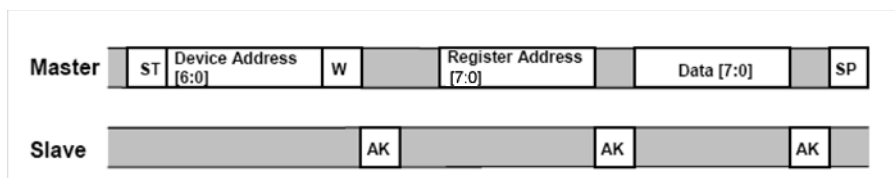

Figure 8. Single Byte Write - The Master (MCU) is writing to a single register of the MMA7455L
To start a write command, the Master transmits a start condition (ST) to the MMA7455L, slave address (\$1D) with the R/W bit set to “0” for a write, the MMA7455L sends an acknowledgement. Then the Master (MCU) transmits the 8-bit address of the register to write to, and the MMA7455L sends an acknowledgement. Then the Master (or MCU) transmits the 8-bit data to write to the designated register and the MMA7455L sends an acknowledgement that it has received the data. Since this transmission is complete, the Master transmits a stop condition (SP) to the data transfer. The data sent to the MMA7455L is now stored in the appropriate register. See Figure 8.